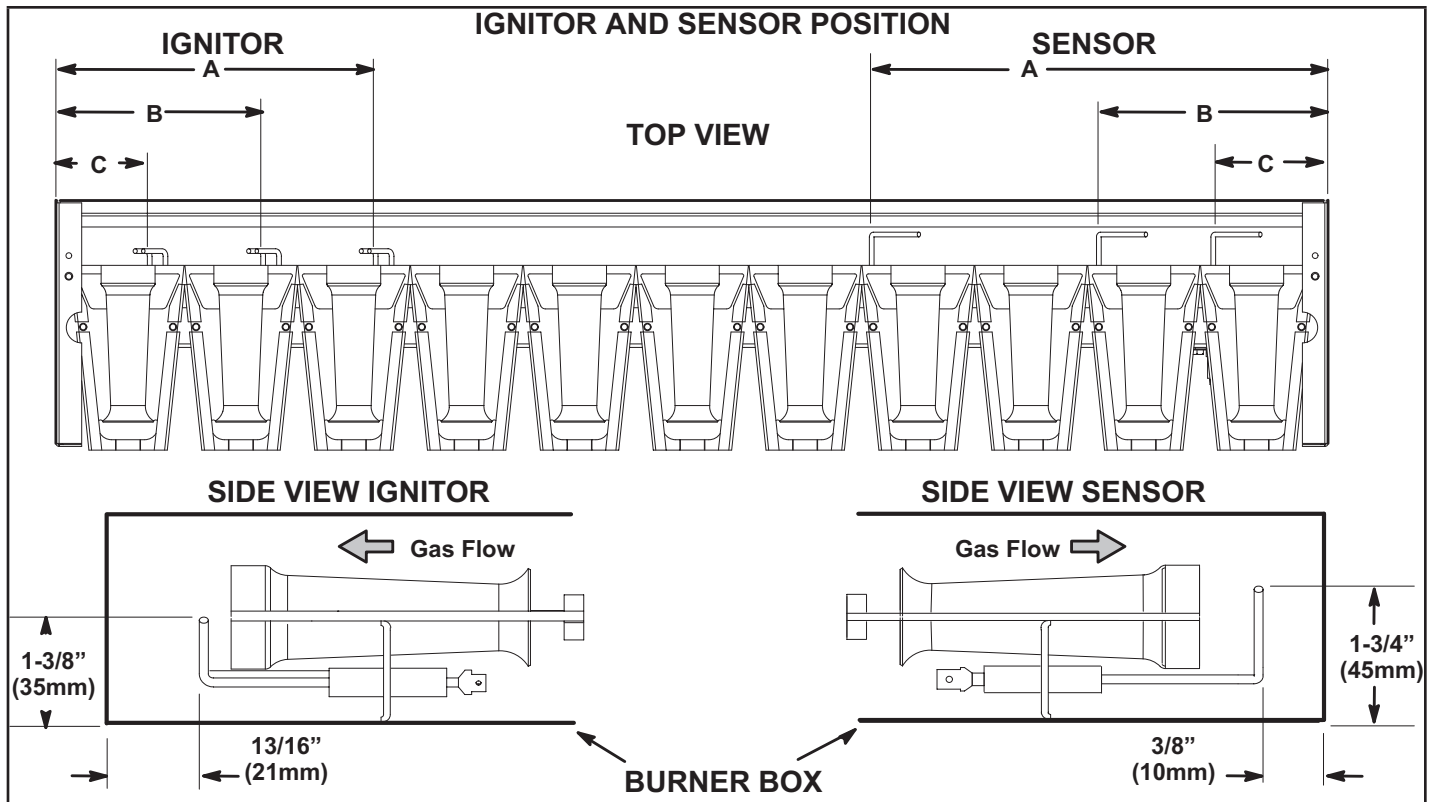

FIGURE 32
- 5 - Check the alignment of the ignitor and the sensor as shown in FIGURE 32 and TABLE 16.